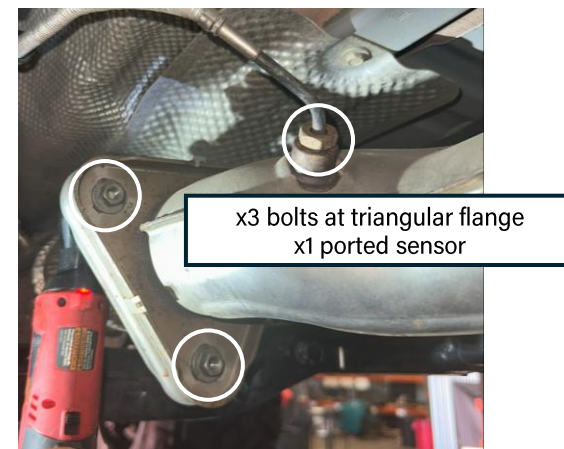

Figure 11m: Flange to be removed and sensor
- Unbolt the x3 nuts holding the exhaust flange at the rear section (Figure 11m)